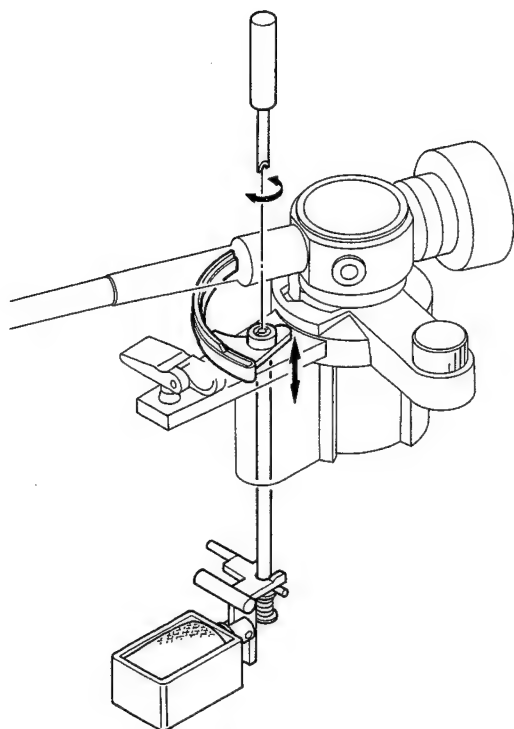

Fig. 5.4
- (1) Move the Tonearm away from the Rest.
- (2) Turn the screw of Arm Elevator with the Cueing Height Adj. Screwdriver (0D09025A) to adjust the cueing height of the Tonearm as shown in Fig. 5.4.